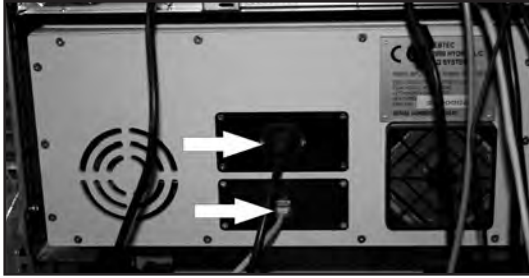

Figure 3. Midbox rear connections.
2. Access the rear of the C2000 cabinet and remove the power cord and Ethernet cable from the C2000 Midbox, see figure 3.
24. Re-connect the power and Ethernet cables to the rear of the Midbox unit (figure 3).